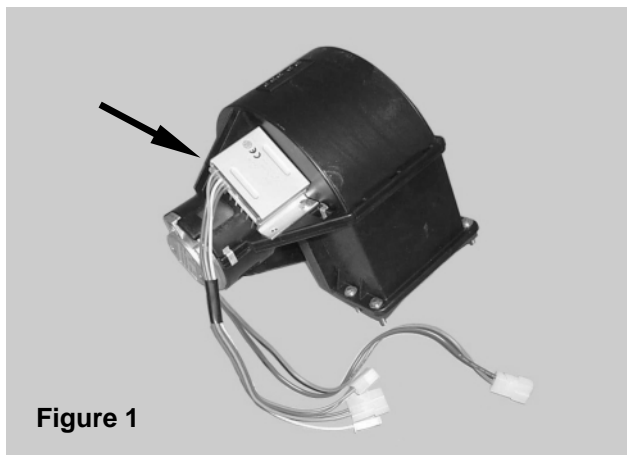

Figure 1
- Carrier/Sütrak have revised the speed controller of the evaporator blowers used in the AC186 (T2100) and AC187 (C2045) systems (see Figures 1 and 2).